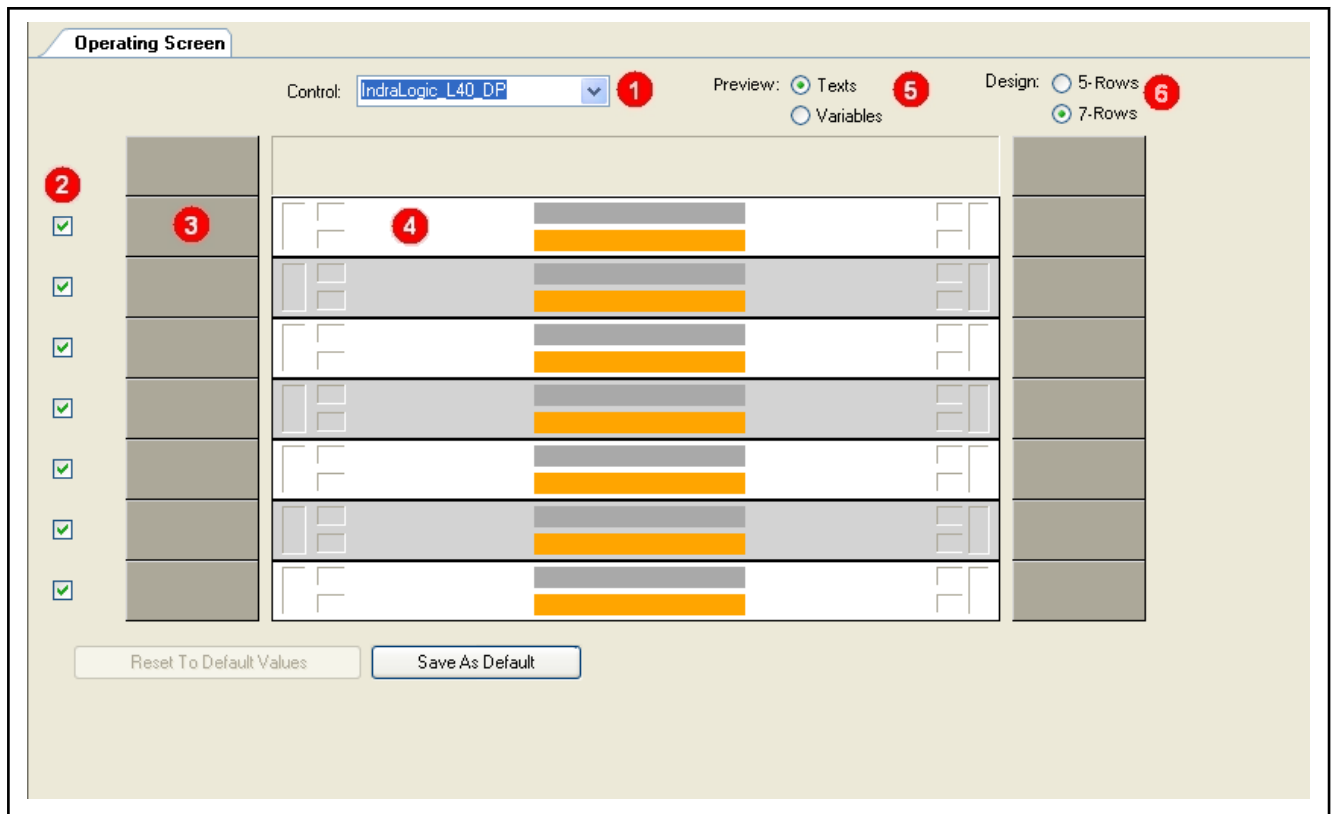

Fig. 5-111: Operating screen editor
The operating screen editor provides an overview on the configuration of the individual operating lines and the M-key assignment of the operating screen (see fig. 5-111 "Operating screen editor" on page 143). Select the control intended for communication with the operating screen elements from the "Control" (①) list box. Hide unnecessary operating lines by means of the checkboxes (②). In the default setting, the two top operating lines are hidden because this space is occupied by the header. To hide the header, open the screen element to which the operating screen is assigned and activate the "Header hidden" checkbox. Save the setting. The two top lines appear when the operating screen editor is opened.